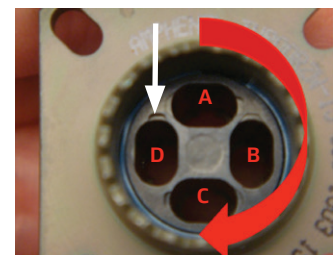

Figure 68: Rear view with insertion orientation
- b. Align the green/green-white pair's orientation keyway (i.e., the beige key), and insert it in position A, being careful not to insert it at an angle (Figure 68).